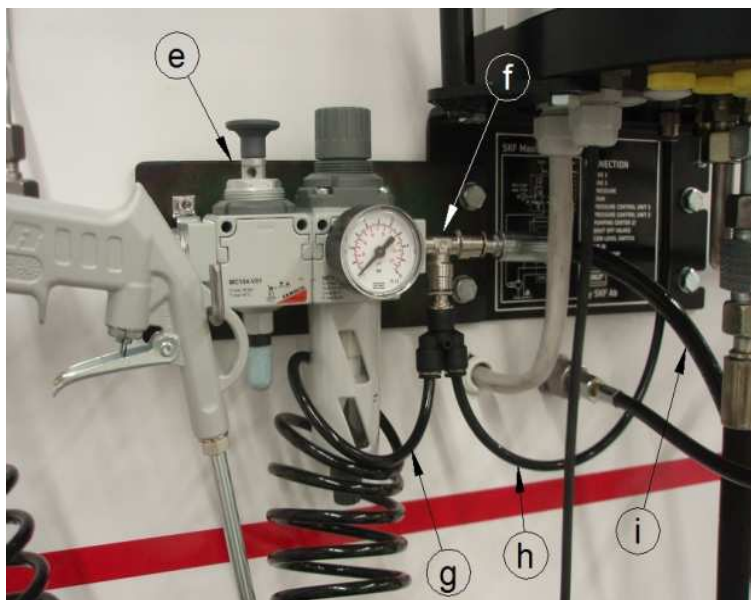

Figure 15 Pressure air connections
- 4 Connect the pressure air connector (f) delivered with the installation kit to the outlet of the pressure air regulator (e), see Figure 15.
- 5 Connect the following components to the pressure air connector: pressure air gun to connection (g); pressure air supply pipe of the SKF Maxilube pumping center to connection (h); and the pressure air supply hose of the EPB pump to connection (i), see Figure 15.